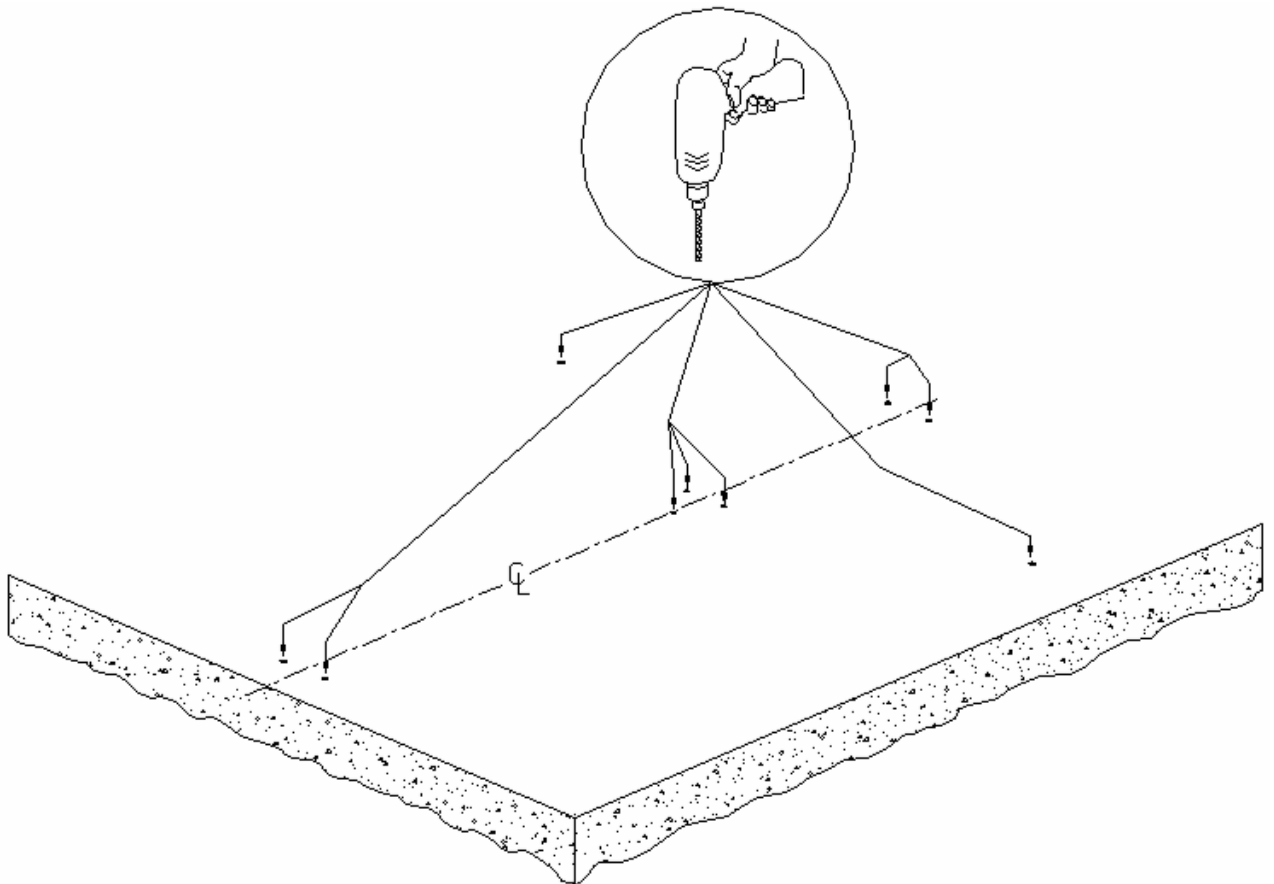

Figure 6
8. Remove bottom plate, tools and any other material and drill (9) 3/8" holes, 4 inches deep for anchor studs, two holes for barrier post, three holes for bottom plate and four holes for shield assembly. See Figure 6. Clean holes.